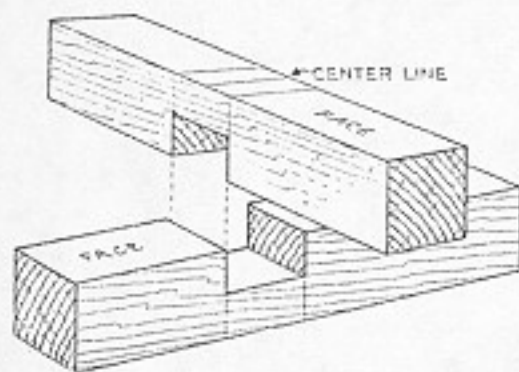

Fig. 209. Cross-lap joint on edges.
8. Cross-lap joints are often made on the edges of the wood instead of on the sides. The method of procedure is the same (Fig. 209).